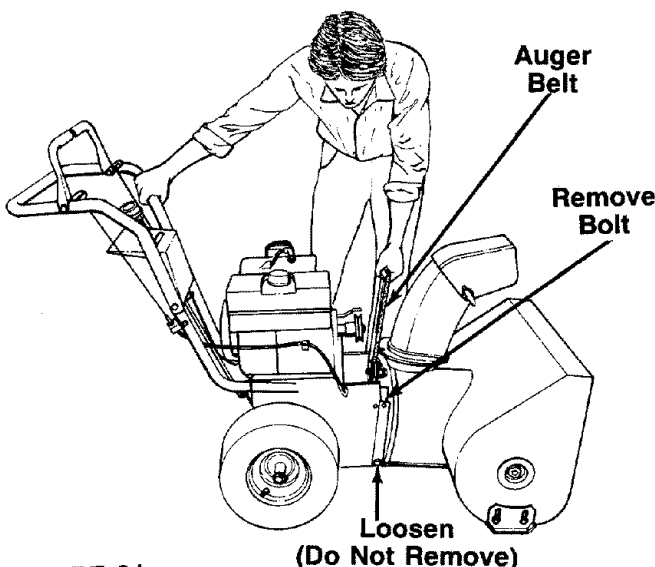

**FIGURE 30.**
4. Remove two engine pulley belt guards. See figure 30.